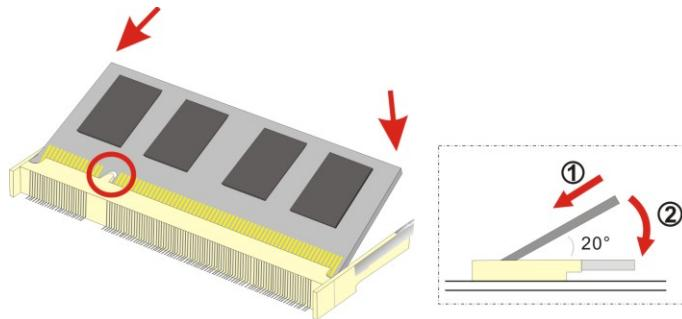

Figure 4-3: SO-DIMM Installation
To install a SO-DIMM into a SO-DIMM socket, please follow the steps below and refer to **Figure 4-3**.
Step 3: Insert the SO-DIMM. Push the SO-DIMM chip into the socket at an angle. (See **Figure 4-3**)
Step 4: Open the SO-DIMM socket arms. Gently pull the arms of the SO-DIMM socket out and push the rear of the SO-DIMM down. (See **Figure 4-3**)